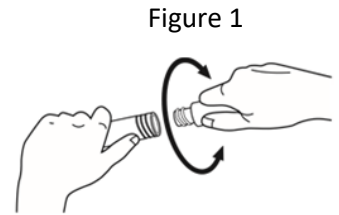

Figure 1
1. Assemble the pole sections to desired height (Figure 1).